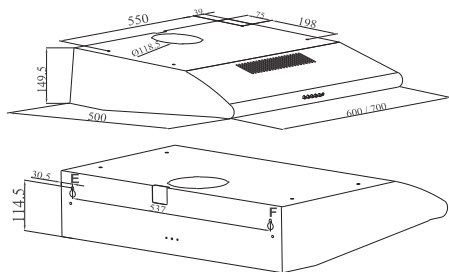

Figure 2 – Drawing of the installation openings
FS-series range hoods are designed for installation under a kitchen cabinet and for wall-mounting. Figure 2 below shows the distances for the installation openings for the two types of installation.
- Mark on the bottom of the kitchen cabinet and drill 4 openings with diameter $\varnothing 2$ mm, taking into account the distance between the installation openings shown in figure 2.
- Mark on the wall and drill 2 openings with diameter $\varnothing 10$ mm, taking into account the distance between the installation openings shown in figure 2.